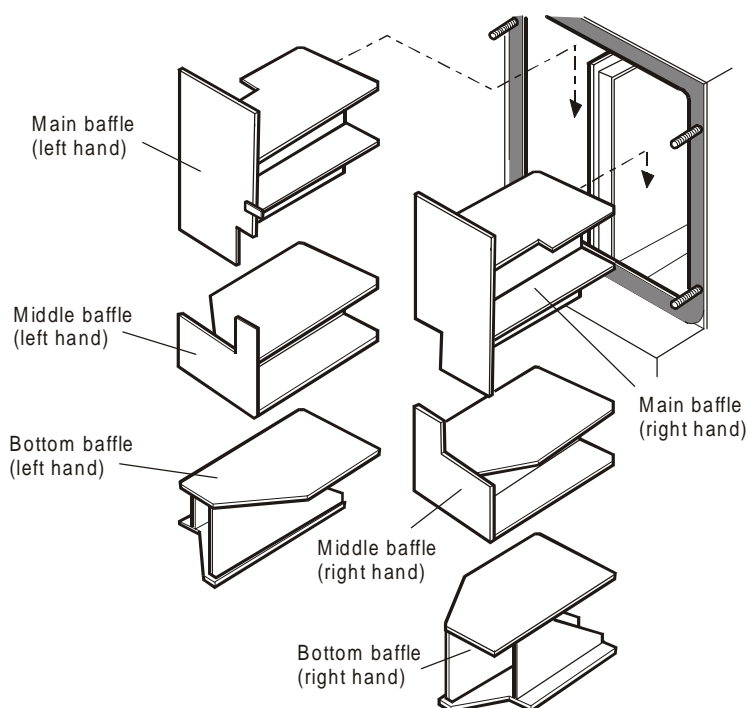

Fig. 20 - Baffle positions
See Fig. 20
- 2 Remove the baffles as shown in Fig. 20.
- 6 Replace the baffles, ensuring they are correctly fitted. See Fig. 20.